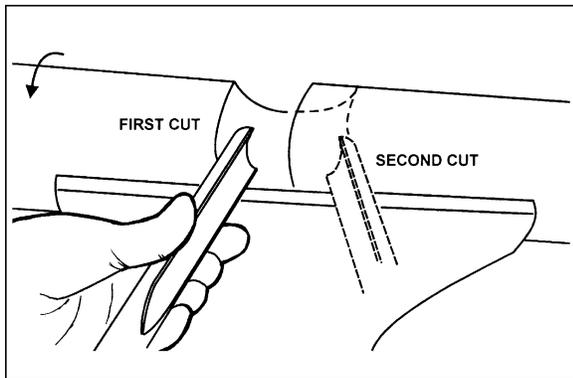

Figure 41
1. Use a spindle gouge. With the flute of the tool at 90 degrees to the workpiece, touch the point of the tool to the workpiece and roll in towards the bottom of the cove. See Figure 41. **Stop at the bottom; attempting to go up the opposite side may cause the tool to catch.**